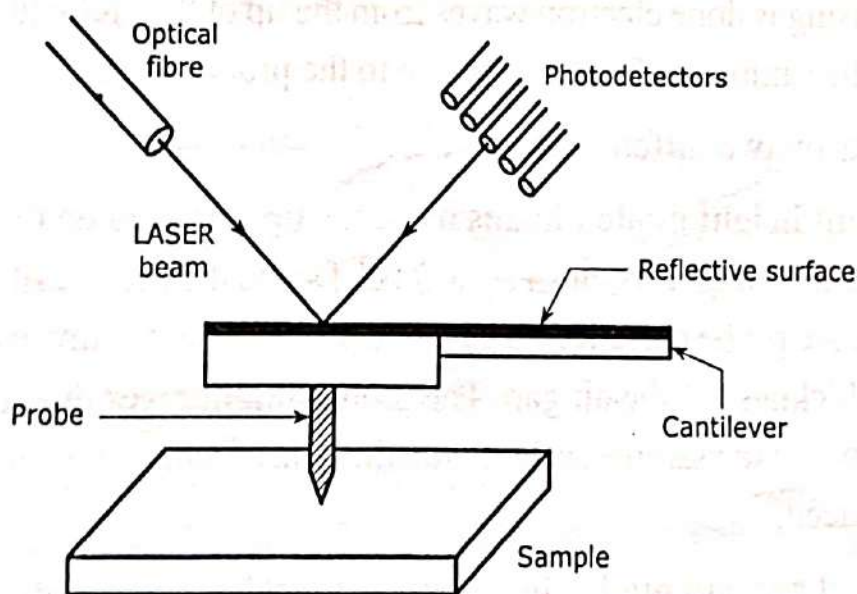

Fig. 5.6 : Atomic Force Microscope
- ✦ The AFM consists of a probe with a sharp tip fitted to a cantilever. The radius of the tip is around 1 nm and the length of the cantilever is around 10 nm as shown in Fig. 5.6.